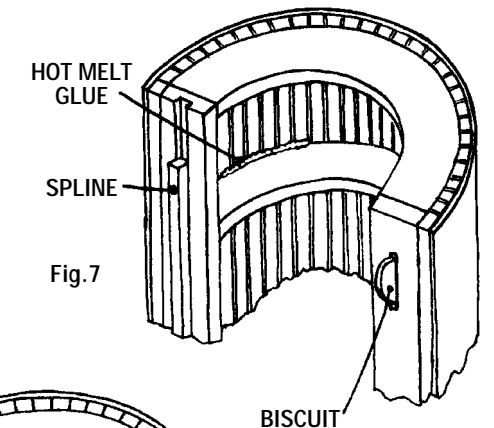
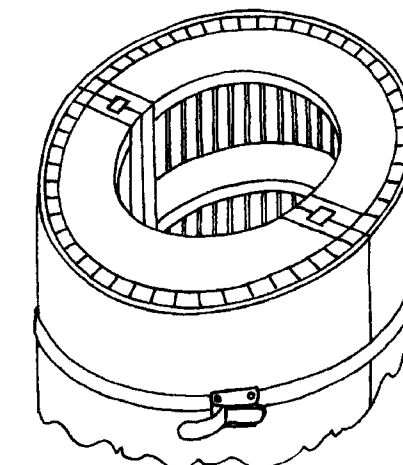

Fig. 7
Fig. 8
8. In the case of producing a whole column, a spline or biscuit joint can be machined to assemble the columns together. After this assembly is complete, the column can then be covered with the desired surface material. (Fig. 7 and Fig. 8)